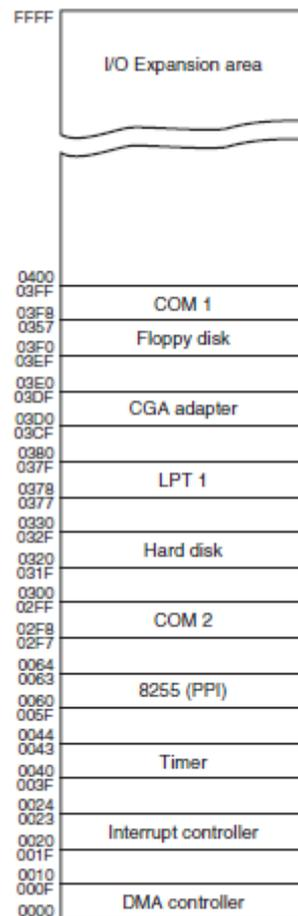

Figure 11-4: The I/O map of a personal computer illustrating many of the fixed I/O areas
- I/O space between ports 0000H & 03FFH is normally reserved for computer-system & the ISA bus. The I/O ports located at 0400H-FFFFH are generally available for user-applications, main-board functions and the PCI bus (Figure 11-4).